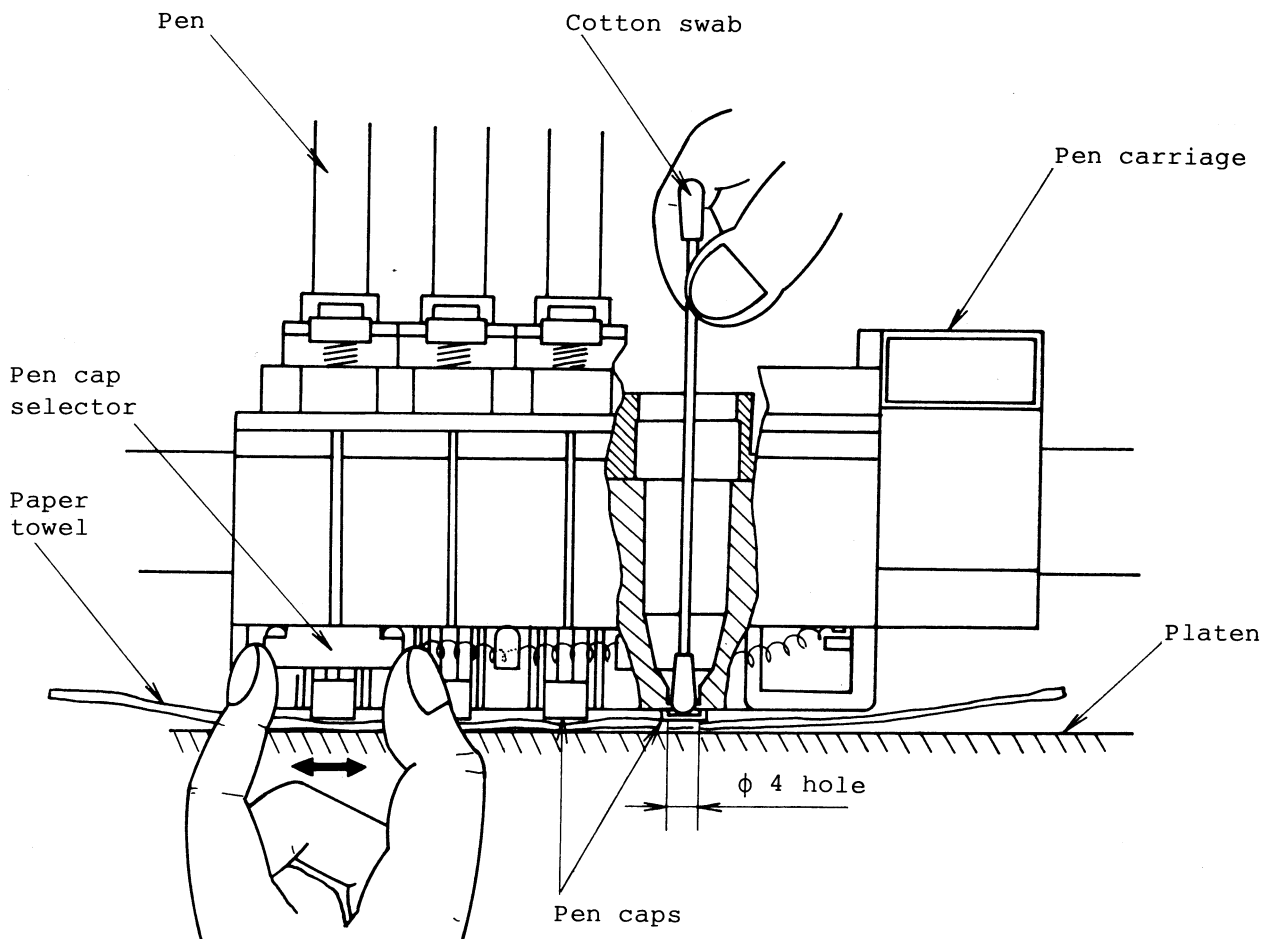

Fig. 5-7 Cleaning the Pen Carriage
- (a) After use or every 2 ~ 3 hours, wipe the ink off the cap by cotton swab soaked with very little water or cleaning solution (e.g. Staedtler 746). (Refer to Fig. 5-7.)